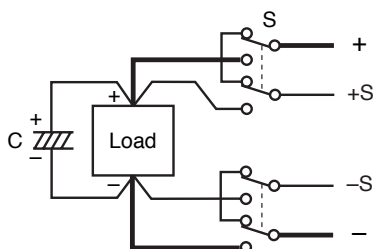

Fig. 5-12 On/off using the mechanical switch
- To turn on/off the power supplied to a load using a mechanical switch, provide additional switches between the sensing wires as shown in Fig. 5-12, and turn on/off the power supply and remote sensing wires simultaneously. Be sure to turn off the OUTPUT or POWER switch before turning on/off the mechanical switch.